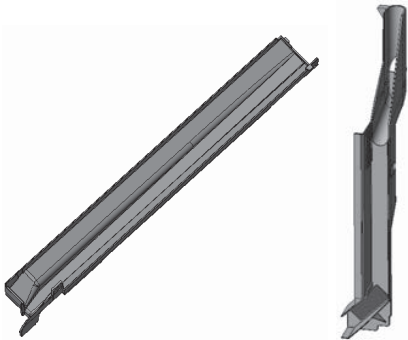

Figure 6
- (5) Clean the drain pan and the drain pan cover. (See Figure 6.)